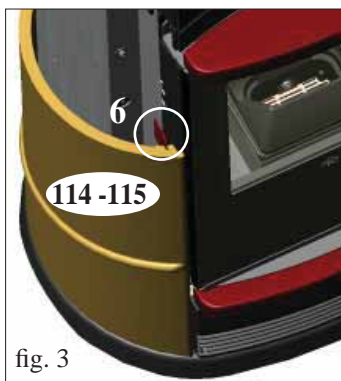

fig. 3
- Position the front panel (72) and use an Allen key to fasten it in place using the 2 supplied M6x25 screws as indicated in detail “X” (fig. 3).